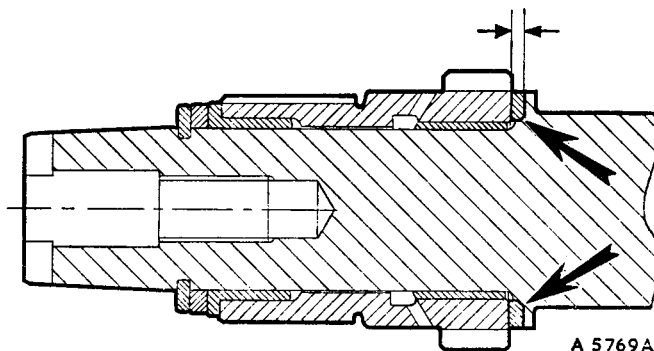

Fig. A.17
11. When refitting, check the running clearance (Fig. A.17).
12. Adjust by fitting the appropriate thrust washer with the chamfered inner edge of the washer to face the crankshaft (see Fig. A.17).